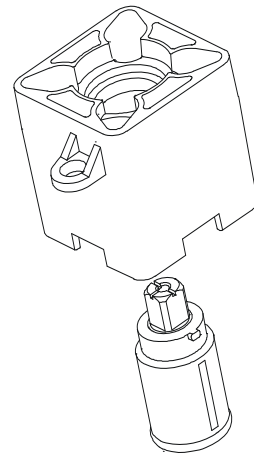

Figure 14: Installing the Drive Shaft into the Thermal Barrier
1. Install the thermal barrier drive shaft into the thermal barrier by aligning the tab on the drive shaft with the slot on the thermal barrier (Figure 14).